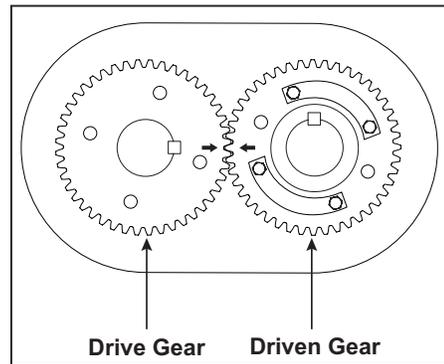
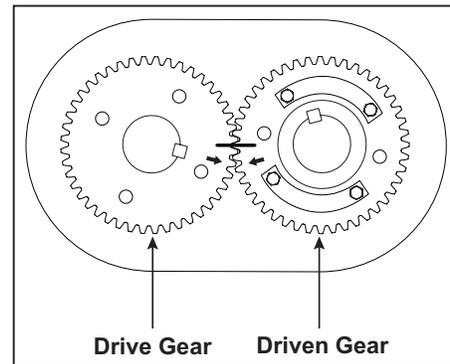

Figure 10 - Timing Marks Matched
Figure 11 - Timing Marks Advanced 3 Teeth (Reference Marks Aligned)
3. Remove four socket head screws (93). Requires 5/32" hex head (Allen) wrench. Place two of the screws in tapped jacking holes and remove seal housing (91). Tap out seal and discard O-rings.
4. Remove gear cover cap screws (26) and gear cover (6) by placing two of the screws in the tapped jacking holes provided on the cover flange. Support cover with lift straps or other suitable means while removing. The jackscrews will provide the force necessary to break the seal between cover and end plate.
5. Temporarily secure end plate to housing with two screws (26) and some flat washers. Remove four nylok screws (66) from drive shaft (45). A light tap with a mallet will break it loose from the drive gear.
6. On 90/91 series only, remove mating ring of mechanical seal (54).
8. Bend back lock tabs and remove cap screws (29), lock (59), washers (25) and spring pins (68).
9. Position timing gears (8) so both timing marks are matched. See Figure 10. Rotate drive gear clockwise approximately three teeth and mark a matching reference line on each gear as shown in Figure 11. This gear position is necessary so rotors will clear and not jam. Using a gear puller with a live center or a centering adapter, large enough so it will not jam into threaded hole, pull driven gear, while keeping matched reference line marks aligned. Use a slight rocking motion to insure rotors have not jammed. Should jamming occur, release pressure and tap gear back on until it rotates freely. Pull mating gear.
6. Install bearing retainer plates (14) and secure with cap screws (30).
7. Check clearance between the face of the end plate and rotor lobes. Refer to the Assembly Clearances table on page 31 for correct gear end clearances. If clearances are not within specifications, recheck parts to find cause of improper clearances before proceeding. Install keys (24) in rotor shaft keyways.
8. Lubricate shafts and keys and press drive gear (right hand helix) on drive rotor. To install driven gear, align reference marks as shown in Fig. 11 on page 26. Tap gear with mallet to start then press the gear until seated.